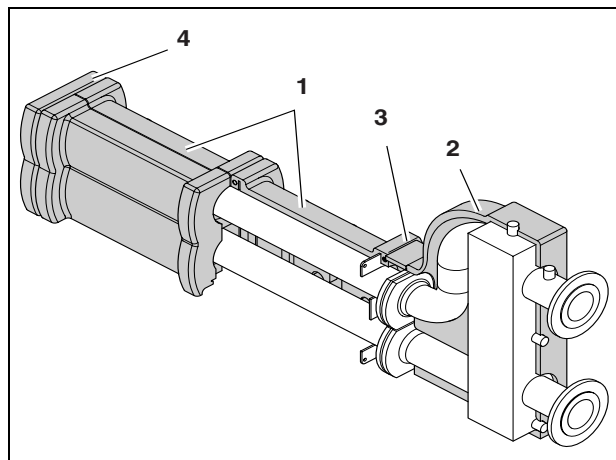

Fig. 9 Header
- Install the rear insulation over the header (fig. 9, item 1).
- Install the rear insulation part over the low loss header (fig. 9, item 2).
- If required, trim the insulation so that it is straight (fig. 9, item 3).
- Install the front insulation of the low loss header. If required, trim the insulation so that it is straight (fig. 9, item 3).
- Install the end cover over the header (fig. 9, item 4).